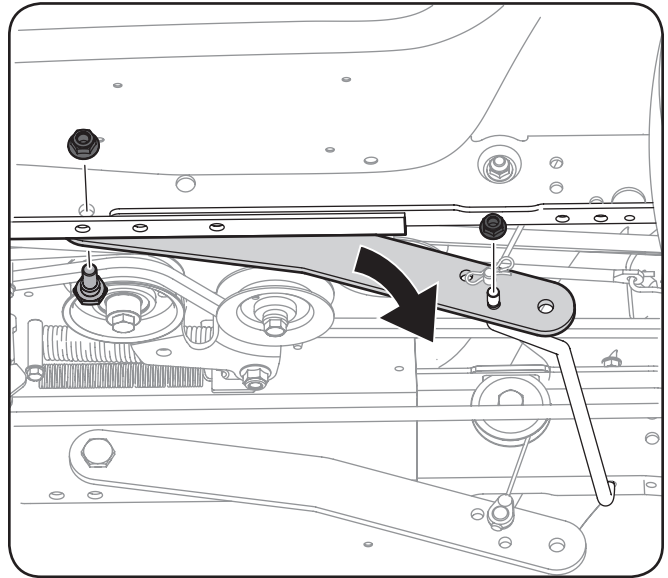

Figure 3-9
- Remove the shoulder bolt and flange nut that secures the left deck lift arm to the tractor's frame. Remove the flange nut that secures the anti-sway rod to the left deck lift arm. See Figure 3-9.